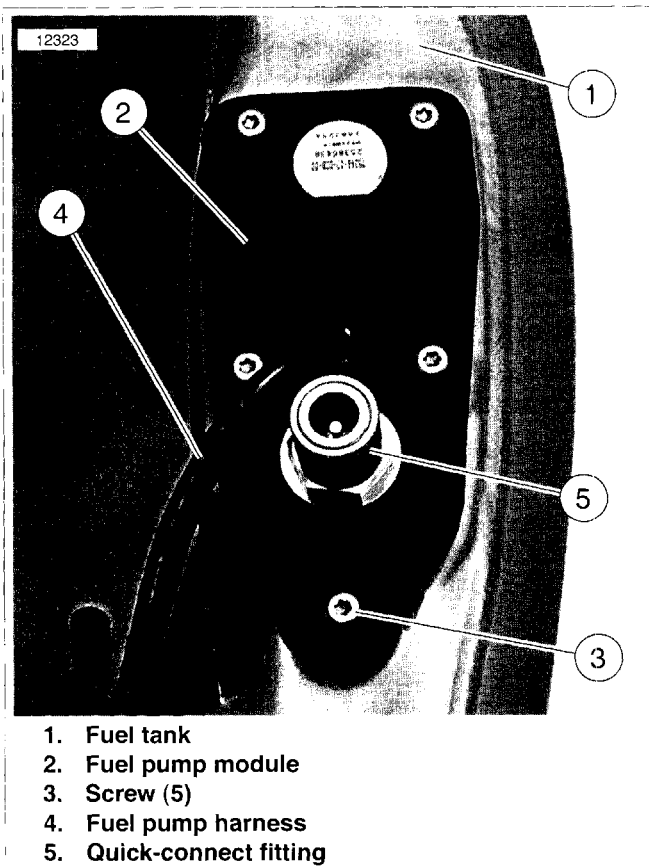
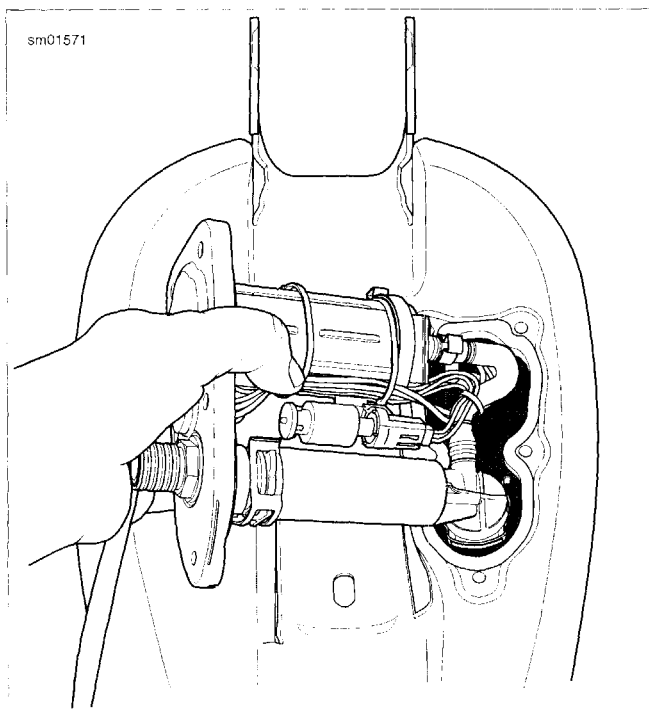

Figure 4-80. Fuel Pump Module: All Models (XL Shown)
Figure 4-81. Removing/Installing Fuel Pump Module: All Models (XL Shown)
6. See Figure 4-80. Lay fuel tank upside-down on a soft cloth.
7. Remove five screws (3).
8. Carefully lift fuel pump module out of fuel tank. See Figure 4-81. To facilitate removal, tilt module when it is almost completely free of fuel tank.
- Carefully install fuel pump module into fuel tank. See Figure 4-81. To facilitate installation, tilt module as you begin to lower it into fuel tank, as shown in the photo. Then straighten module to complete installation.
- See Figure 4-80. Install five screws (3). Tighten to 40-45 **in-lbs** (4.5-5.1 Nm).